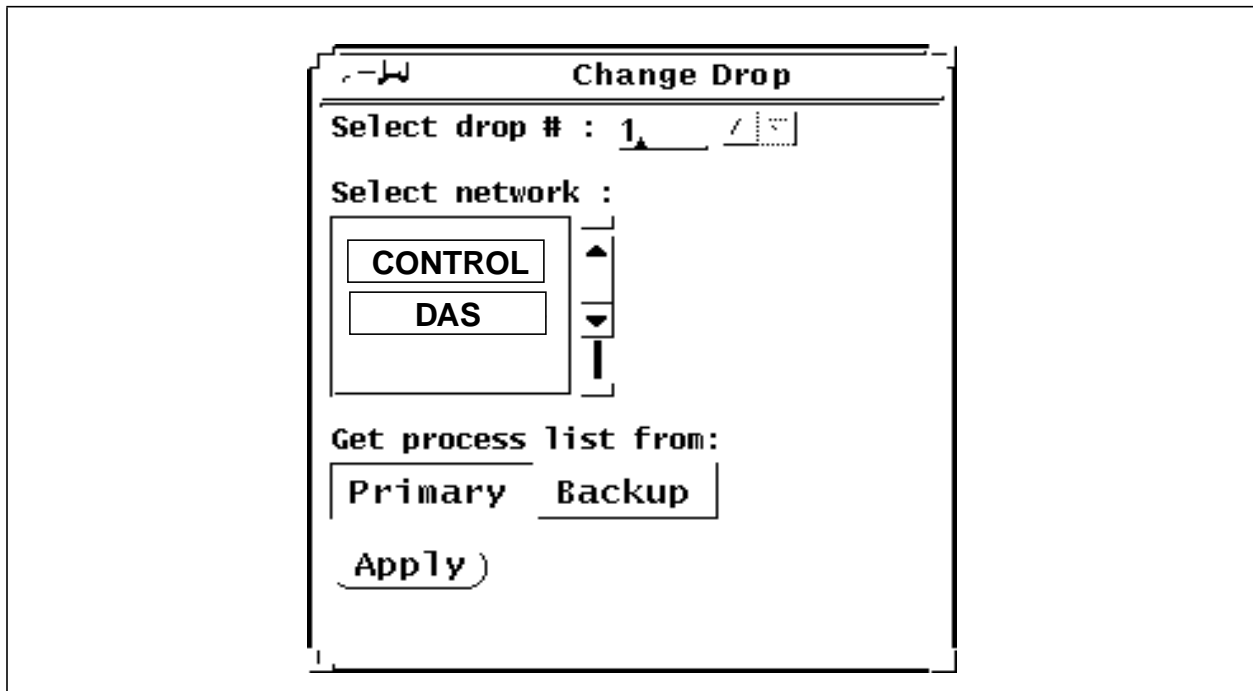

Figure 5-8. Change Drop Window
- **Change Drop** button displays the Change Drop window illustrated in Figure 5-8: